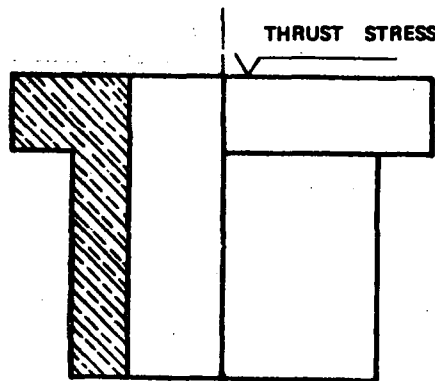

Fig. 3
- b *anti-friction thrust bearings*, for thrust stresses (Fig. 3);